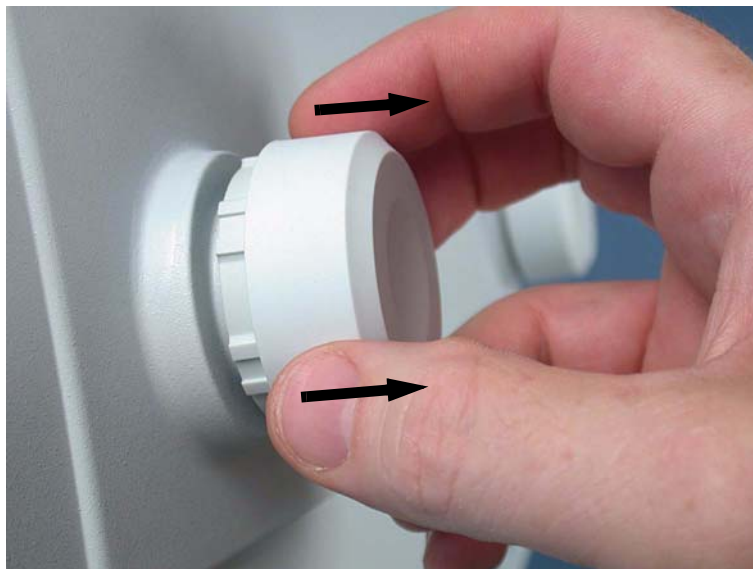

Figure 11-209. Removing the outer knob
1. Take a firm grip of the outer knob, and pull it free. Figure 11-209 shows removal of the older style, plastic knob.